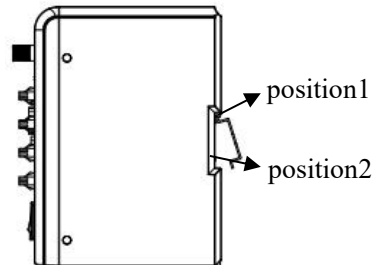

Figure 4.1 Guide rail installation
1. Installation (Figure 4.1): (1) Lock the controller back panel DIN rail track to position 1 rail.
(2) Push down controller toward position 2.